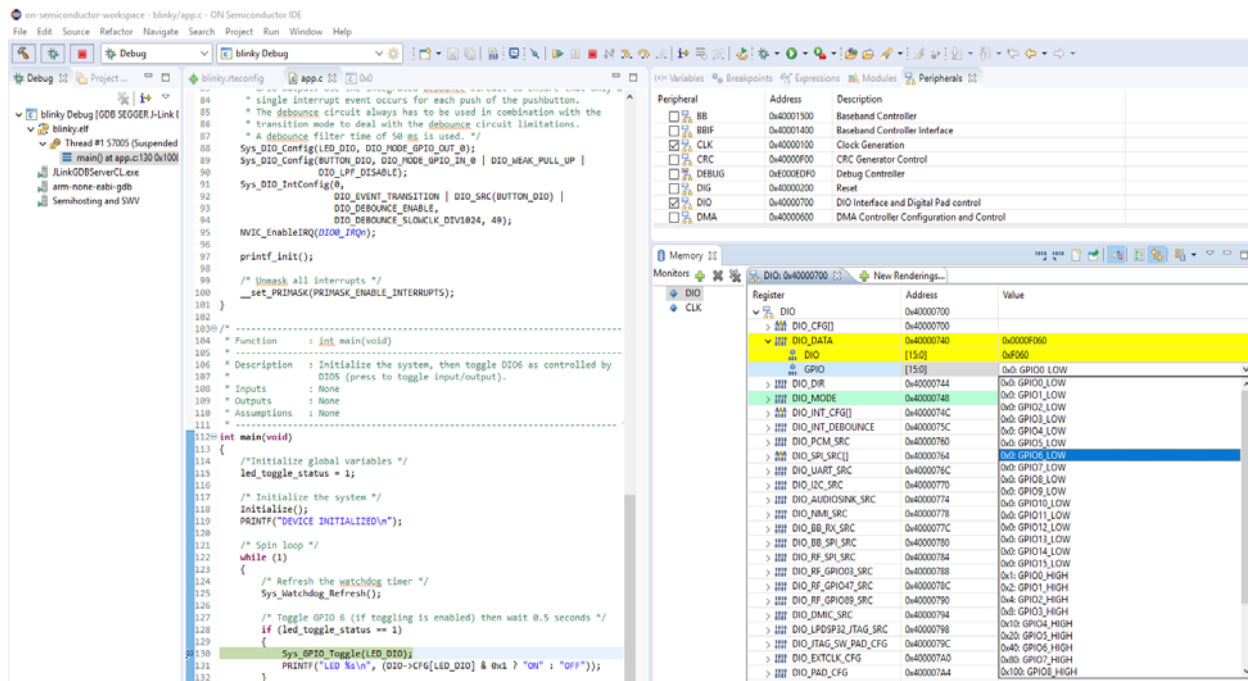
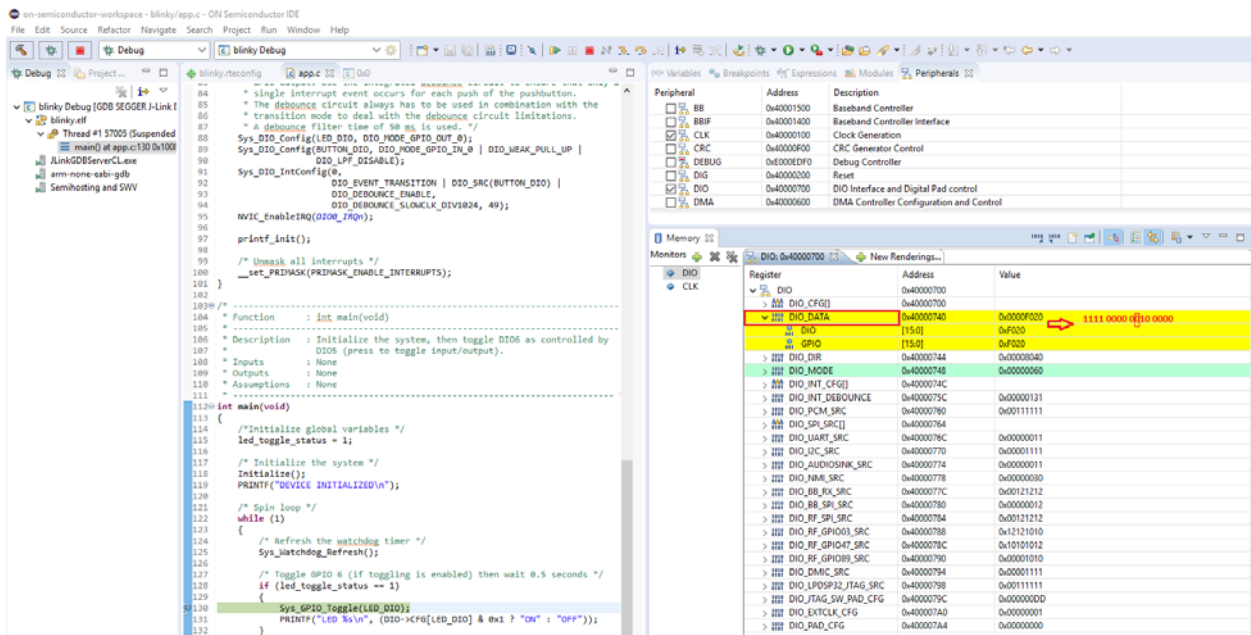

Figure 14. Toggling RSL10 DIO Using the Peripheral Registers View: Before
Figure 15. Toggling RSL10 DIO Using the Peripheral Registers View: After
6. Press F6 to step through the code. You can observe that this register's bit 6 toggles its state when `Sys_GPIO_Toggle(LED_DIO)` is executed (in this case, from 0xF060 to 0xF020). The register turns yellow to indicate that you have activated real-time monitoring for it (see Figure 14 on page 17).
- To manually change the register value, click on the **Value** field of the GPIO register to change the (**HIGH/LOW**) state of **GPIO6**. Figure 14 shows the view before making the change, and Figure 15 illustrates the view after making the change. You can observe that the LED (DIO6) on your board changes state.